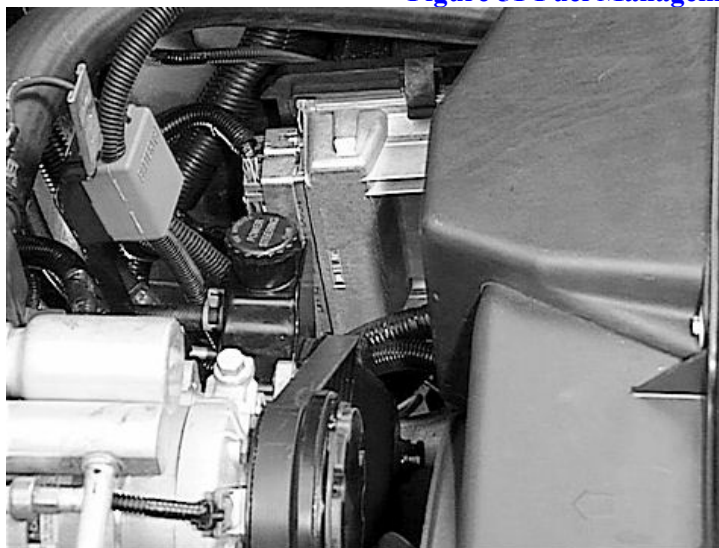

Figure 52 ECM Location (Disc 1 Slide)
- Located in the engine compartment on most applications (Figure 52)